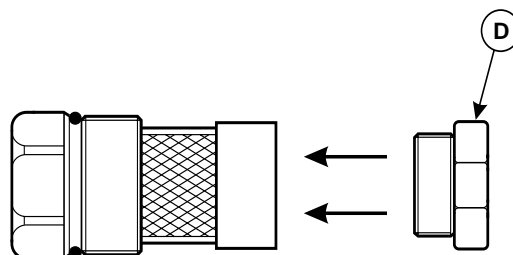

Fig. 6 - Differential pressure sensor AFTER modification
- b. Screw fitting 'D' (supplied in the conversion kit) into the sensor body as shown in Fig. 6.